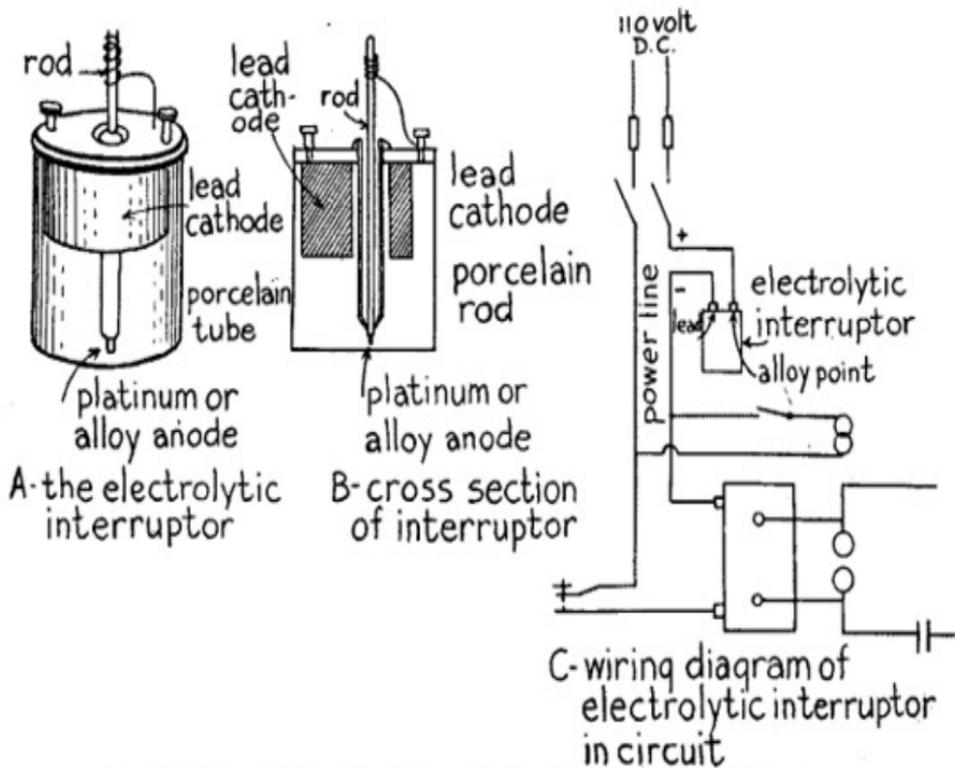

FIG. 23.—Using 110 Volt Direct Current with an Alternating Current Transformer.
*For Direct Current.*--Where you have 110 volt direct current you must connect in an electrolytic interrupter. This interrupter, which is shown at *A* and *B* in *Fig. 23*, consists of (1) a jar filled with a solution of 1 part of sulphuric acid and 9 parts of water, (2) a lead electrode having a large surface fastened to the cover of surface that sets in a porcelain sleeve and whose end rests on the bottom of the jar.